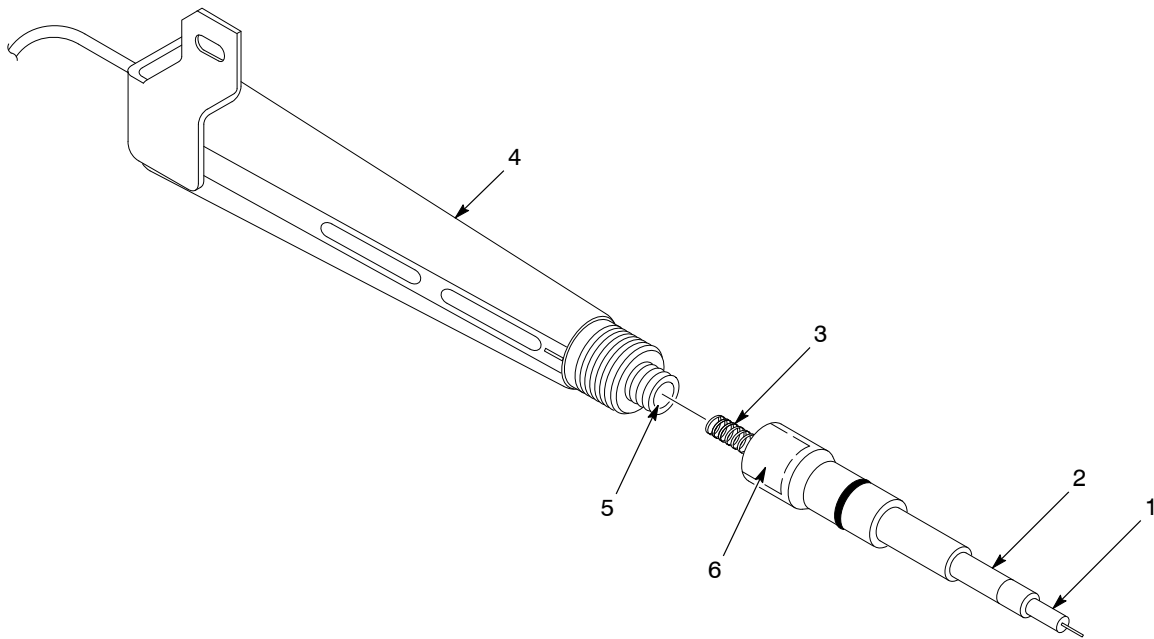

Figure 6-2 Resistor and Contact Tip Replacement
2. See Figure 6-2. Unscrew the old resistor probe (2) from the multiplier (4). Clean the multiplier well (5).
4. Inject dielectric grease into the multiplier well (5) until it is completely full. Use the 3-cc applicator supplied with the kit.
5. Fill the new resistor spring (3) and the resistor probe cavity (6) completely with dielectric grease.
6. Unscrew the contact tip (1) from the resistor probe (2).
2. See Figure 6-2. Unscrew the damaged contact tip (1) from the end of the resistor probe (2).